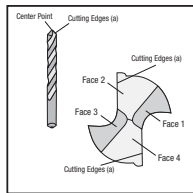

Figure 3
- I. A sharp centre point in the centre of the bit. Refer to Figure 3.